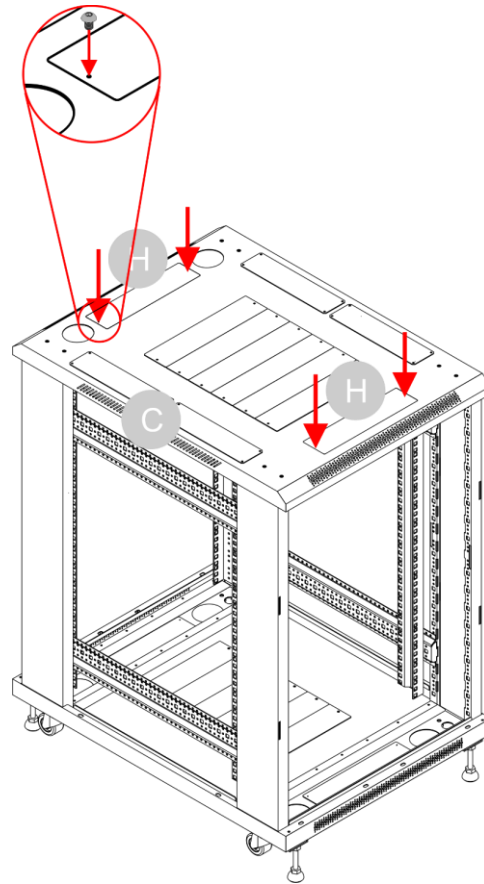

Fig. 34
- 18) Attach the 2 **metal plates (H)** to the **frames (B)** with 2 **screws (N)** per plate, as shown in Fig. 34.